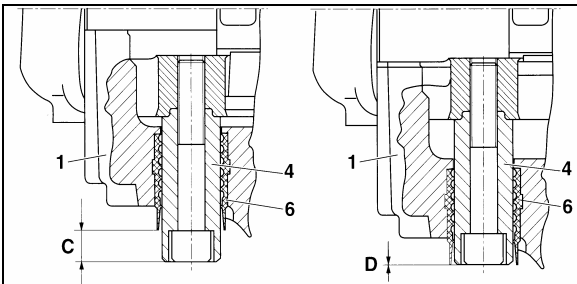

FIGURE 30: BRAKE PAD CHECK 12117
The pad thickness can be seen but would require removal of the tire and rim. An indicator of the pad wear condition is available by inspecting the floating pin location in relation to the rubber bushing as shown in figure 30. When pads are in new thickness condition, the pin will be exposed (C) 19 mm ($\frac{3}{4}$ "). When the pads are worn to replacement conditions, the pin will be nearly flush to the bushing (D) or within 1 mm ($\frac{3}{64}$ ") of the edge of the rubber bushing.